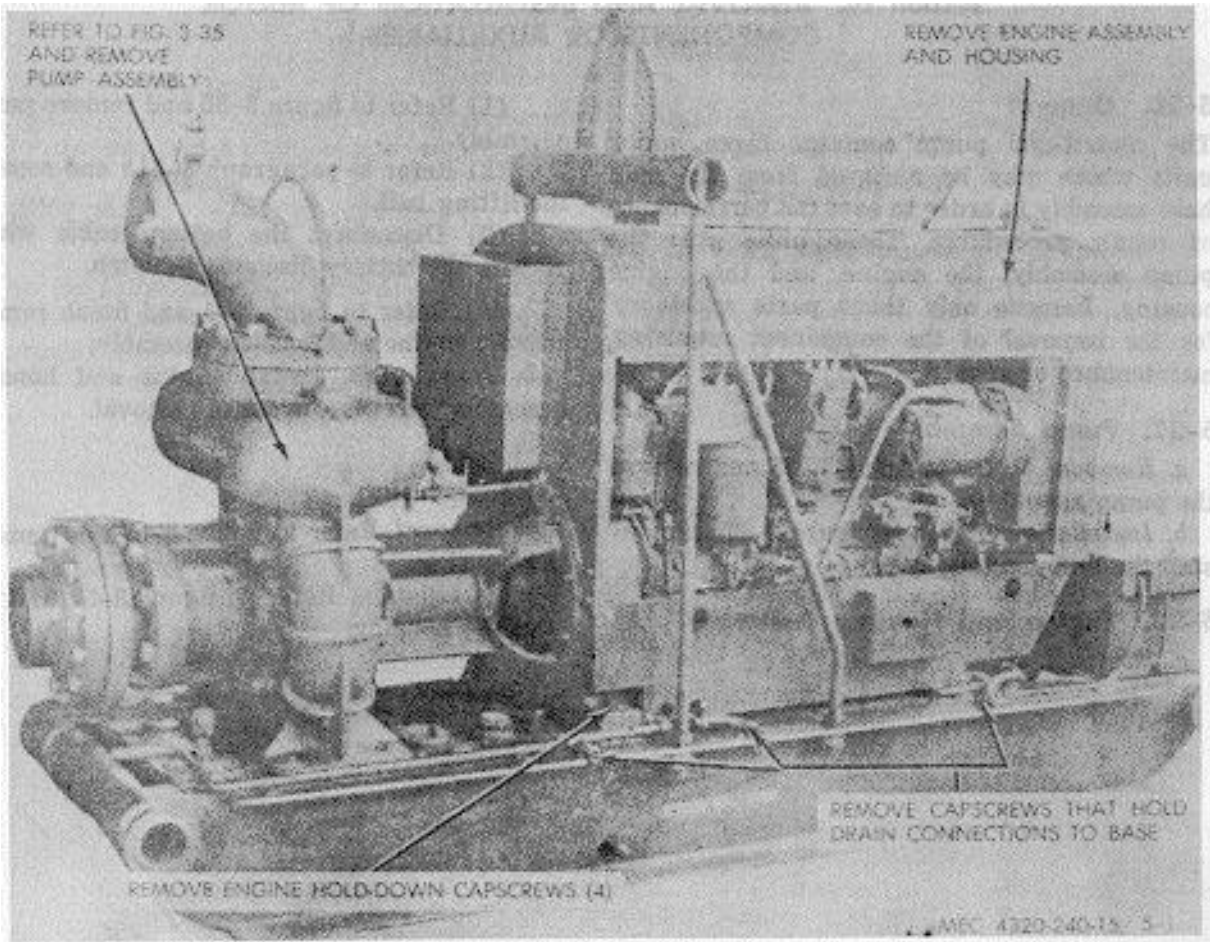

Figure 5-1. Engine assembly and housing removal and installation.
(2) Refer to paragraph 3-81b and remove the lifting bail.
(3) Disconnect the battery cable which runs to the battery disconnect switch.
(4) Refer to figure 5-1 and finish removing the engine and housing assembly.